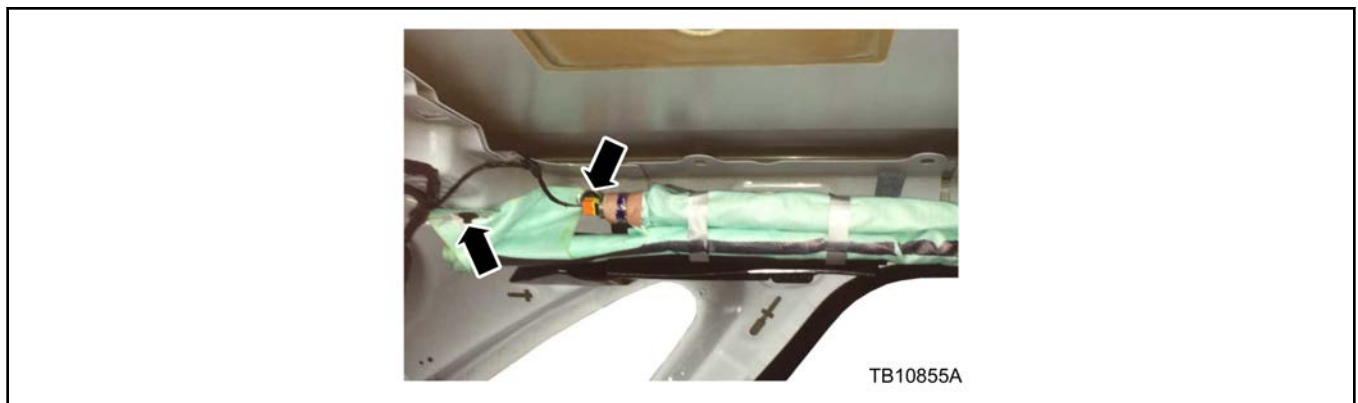

Figure 1 - Article 16-0053
1. Remove the two side curtain airbag screws on the driver side curtain airbag to access the grab handle sheet metal location. Refer to Workshop Manual (WSM), Section 501-20. (Figure 1)